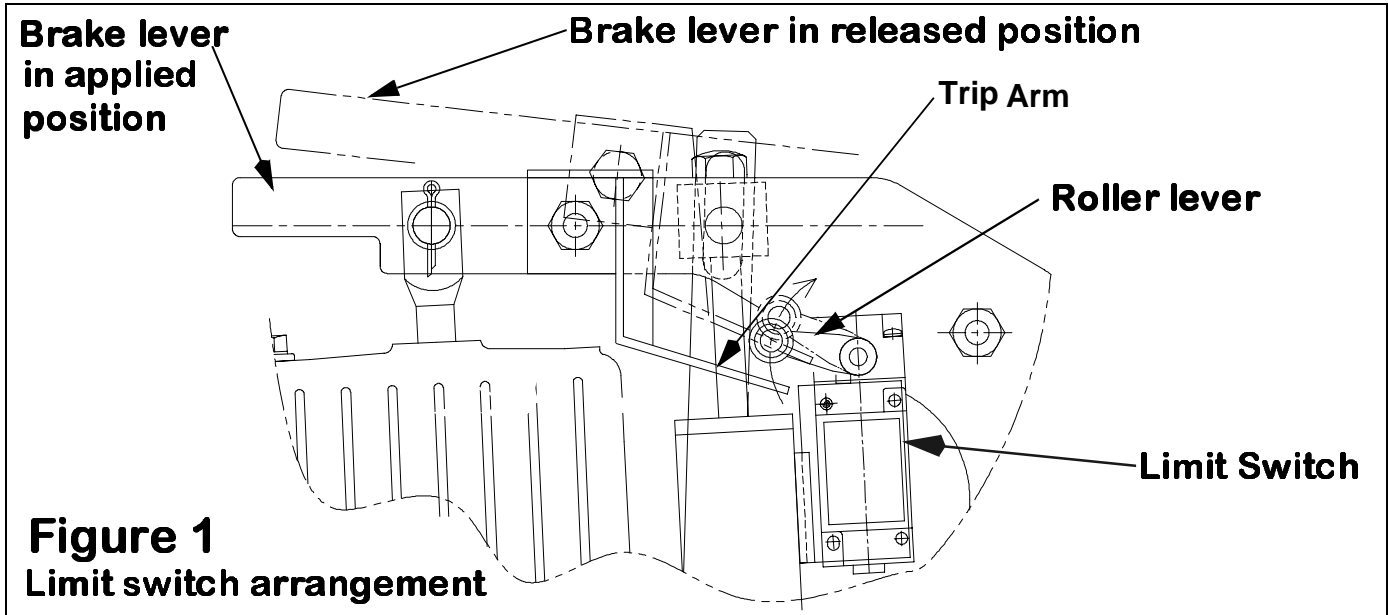

Figure 1
1.0.(a) : The arrangement shown in Figure 1, is typical only and may differ slightly on the specific brake